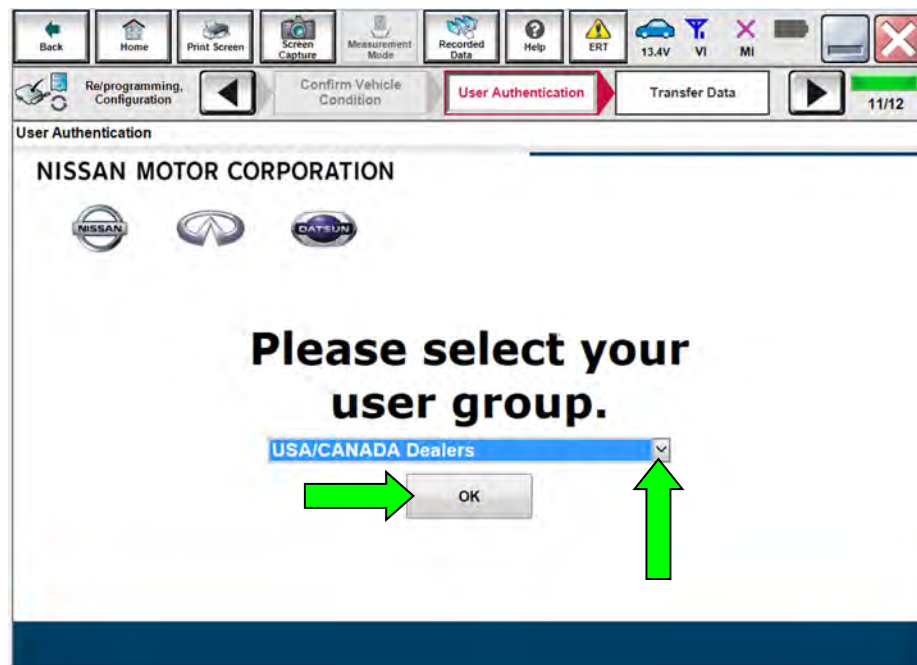

Figure 20
- The screen in Figure 20 may not display if the CONSULT PC has remained ON since the last reprogramming.